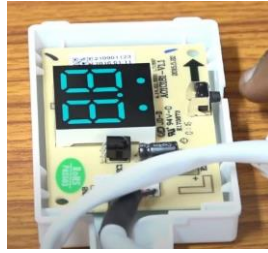

Fig. 1.34 Control panel of indoor unit
10. **Control panel** – The control panel on the indoor unit allows you to adjust settings such as temperature, fan speed, and mode. It is also attached to the LED display unit to display the current temperature of the air conditioner. Figure 1.34 shows the control panel of the indoor unit.